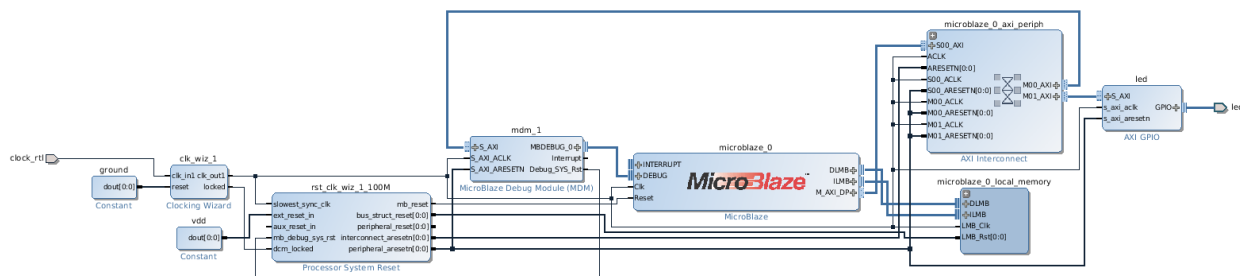

Figure 6: Final Layout
- (p) Right click on the diagram and select 'Regenerate Layout'. The final layout should look like Figure 6.